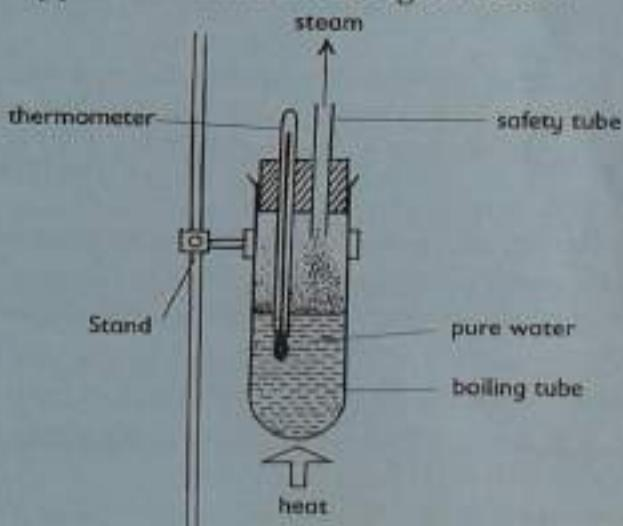

Fig 1.4: Apparatus for measuring boiling points of water
1. Arrange your apparatus as shown in Fig.1.4 below